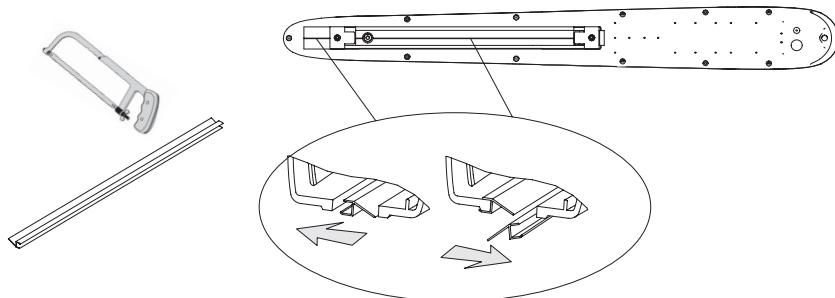

Figure 17. Mounting a guard bar
- Fit the guard bar to the edge of the drive groove; use the remaining bar for mounting to the exposed groove portions (*fig. 17*).